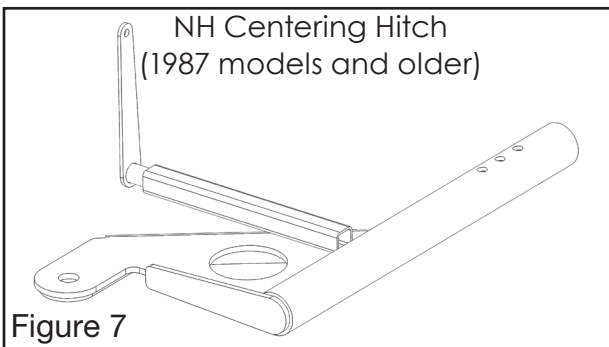
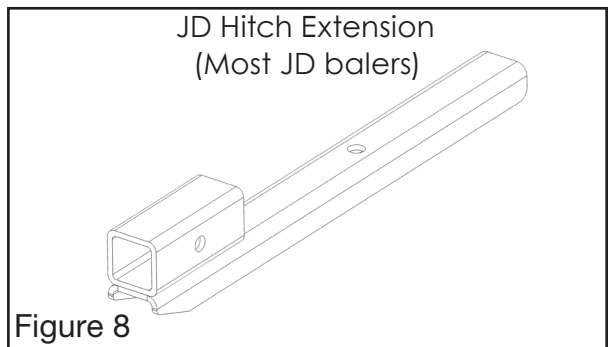

Figure 7
Figure 8
3. If the hitch is not centered below the bale chamber on your New Holland Baler, Kuhns Mfg offers a centering hitch adapter to center the hitch (Figure 7). Most John Deere balers need a hitch extension for proper hitch length (Figure 8).